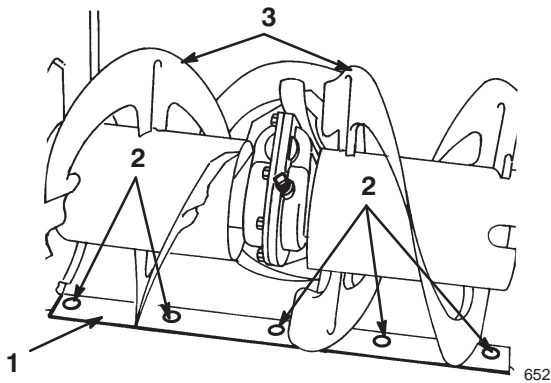

Figure 22
1. Skid (2)
2. Flange nuts (4)
3. Auger side plate (2)
- Support the **auger blades** so that they are 1/8 inch (3 millimeters) off the ground (Fig. 22).
- To adjust the scraper, loosen the 5 mounting screws (Fig. 22), level the scraper, and tighten the mounting screws.